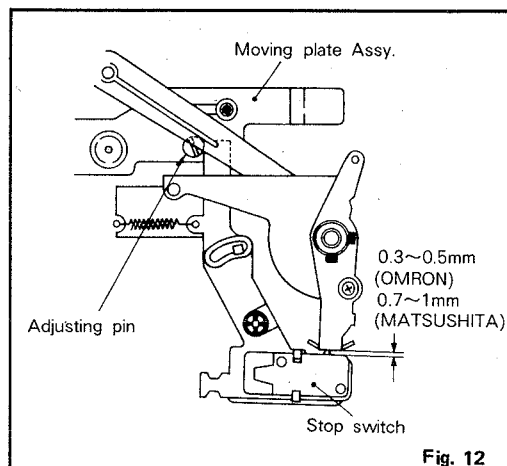

Fig. 12
- Adjust gap between tone arm fixing plate and micro-switch for dimension specified (Fig. 12). Note that two different vendor type micro-switches can be used for this model. Determine vendor type and adjust to dimension specified.
- Check to see that the tonearm fixing plate assy. is in the condition as shown in Fig. 12 when the tonearm returns to tonearm rest.